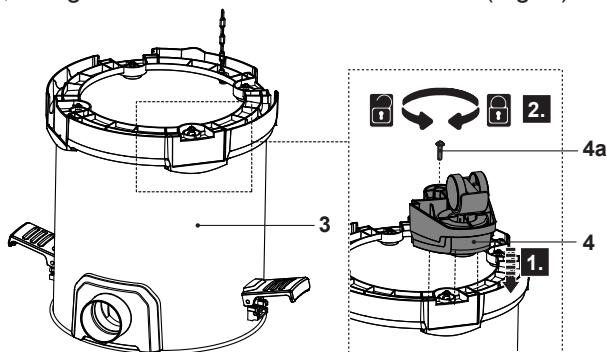

Fig. 2
- > Place the tank (3) upside down on a flat, stable surface.
- > Align and slide the castors (4) onto the supports. Secure the connection with the screws (4a), using a suitable crosshead screwdriver (Fig. 2).